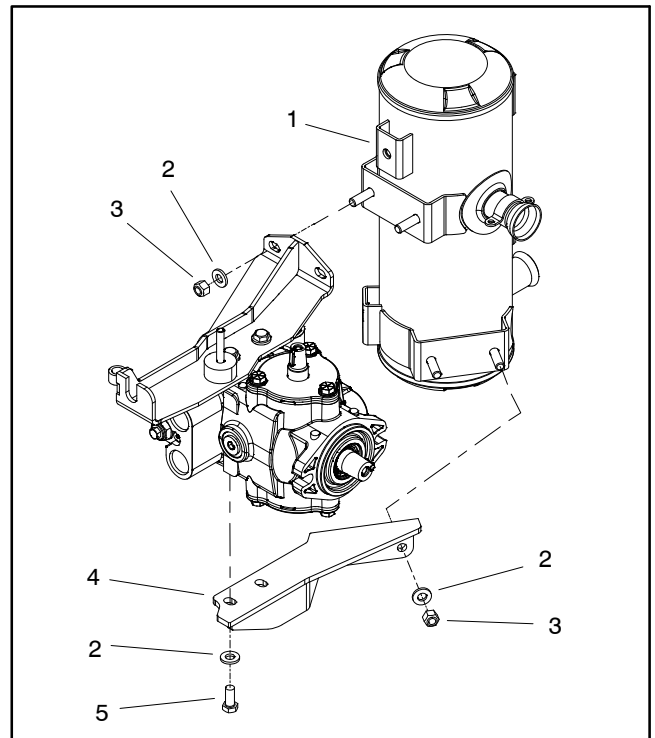

Figure 39
2. If necessary, remove muffler to allow disassembly of traction neutral assembly (Fig. 39). Refer to Exhaust System in the Service and Repairs section of Chapter 3 – Diesel Engine for additional information on muffler removal.
A. If pivot plate (item 32) was removed from pump trunnion shaft, make sure that both trunnion shaft and plate bore are thoroughly cleaned before installing plate to shaft.
B. If damper lever (item 4) was removed, apply anti-seize lubricant to bore of muffler mount (item 9) during assembly.
C. Make sure that ball bearing (item 16) on neutral arm (item 11) is properly positioned in pump lever (item 6) after assembly.
2. Install muffler if it was removed (Fig. 39). Refer to Exhaust System in the Service and Repairs section of Chapter 3 – Diesel Engine for additional information on muffler installation.